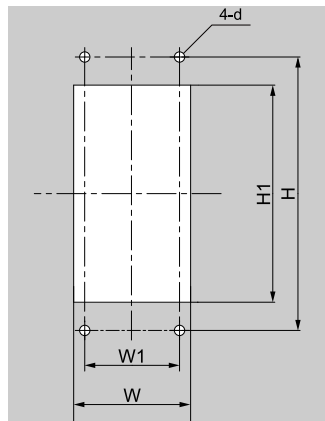

Figure 2.13 Panel Cut-Out Dimensions to Attach Inside Control Panel
- Use the dimensions in Figure 2.13 and Table 2.5 to cut an opening in the control panel for the keypad.